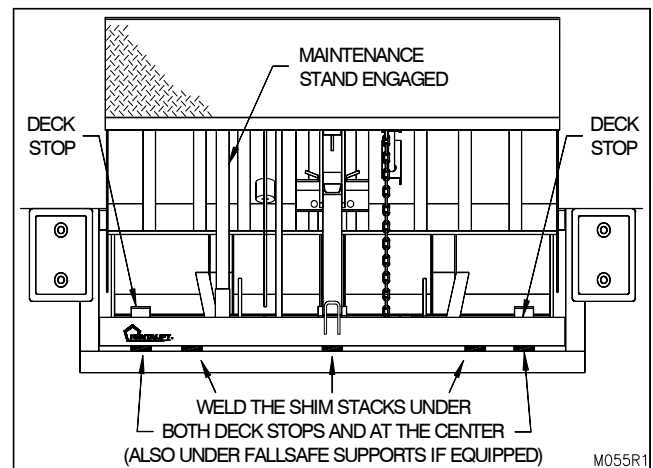

Figure 8: Weld to Front Curb Angle
- Weld front shim stacks securely to front curb angle (3" long weld) and to front frame of dock leveler. (See Figure 8: Weld to Front Curb Angle on page 7)